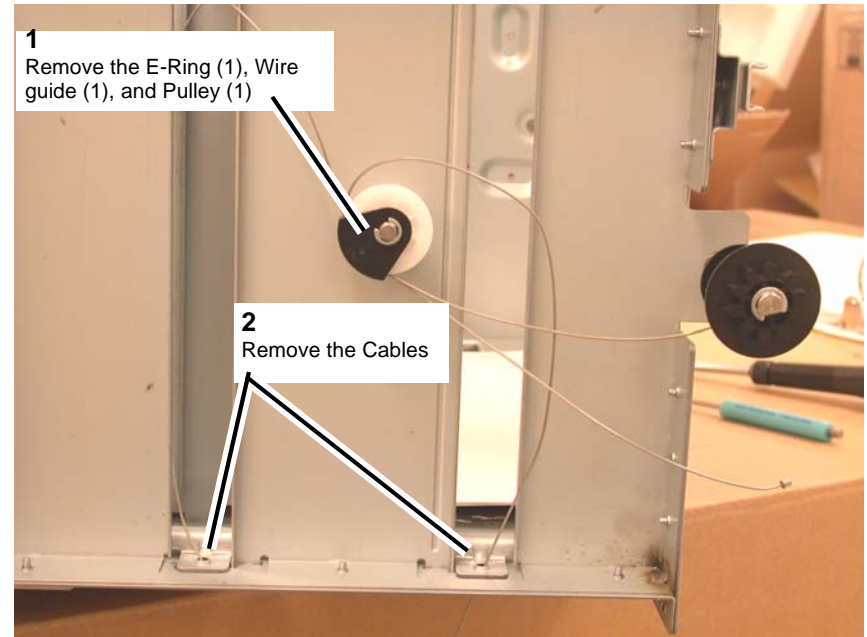
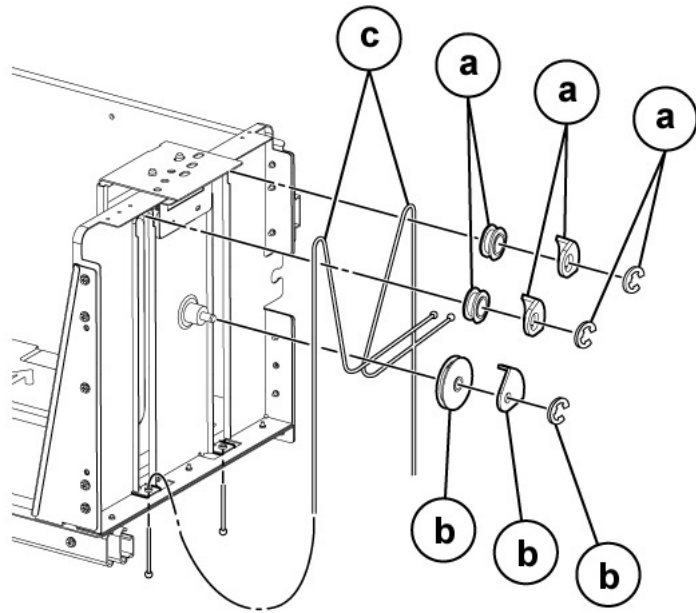

Figure 10 Removing the Front Tray Cables
Figure 11 Front Tray Cable details
5. Remove the Front Tray Cables (Figure 10, Figure 11).